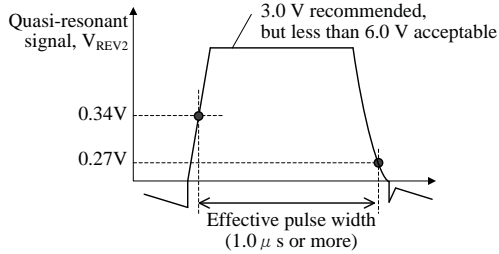

Figure 9-12 The effective pulse width of quasi-resonant signal
- The effective pulse width of quasi-resonant signal is $1.0\text{ }\mu\text{s}$ or more (refer to Figure 9-12)
power supply specification, $V_{REV2} < 6.0\text{ V}$ (Absolute maximum rating of the BD pin) and the effective pulse width of quasi-resonant signal is $1.0\ \mu\text{s}$ or more (refer to Figure 9-12).